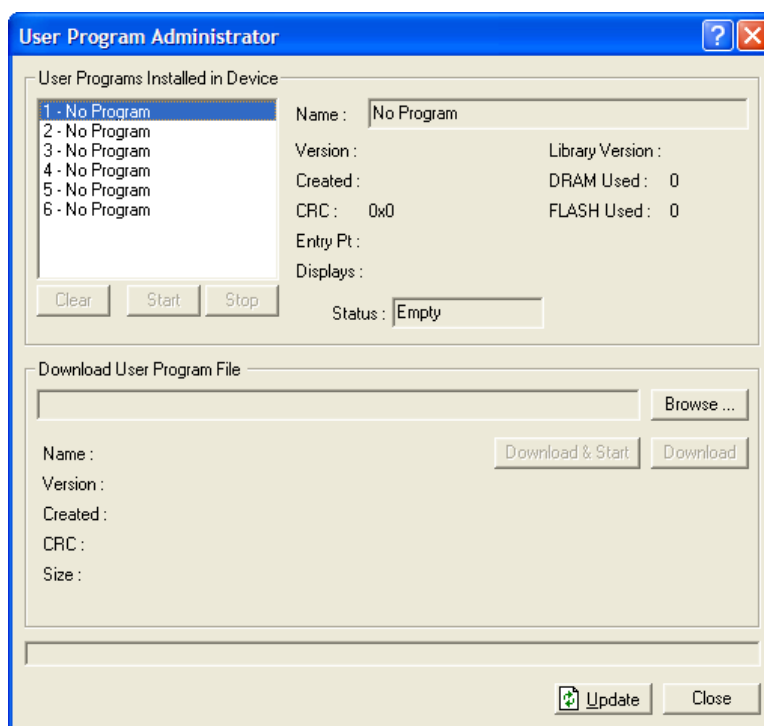

Figure 1. User Program Administrator
3. Select **Utilities > User Program Administrator** from the ROCLINK menu bar. The User Program Administrator screen displays (see *Figure 1*):